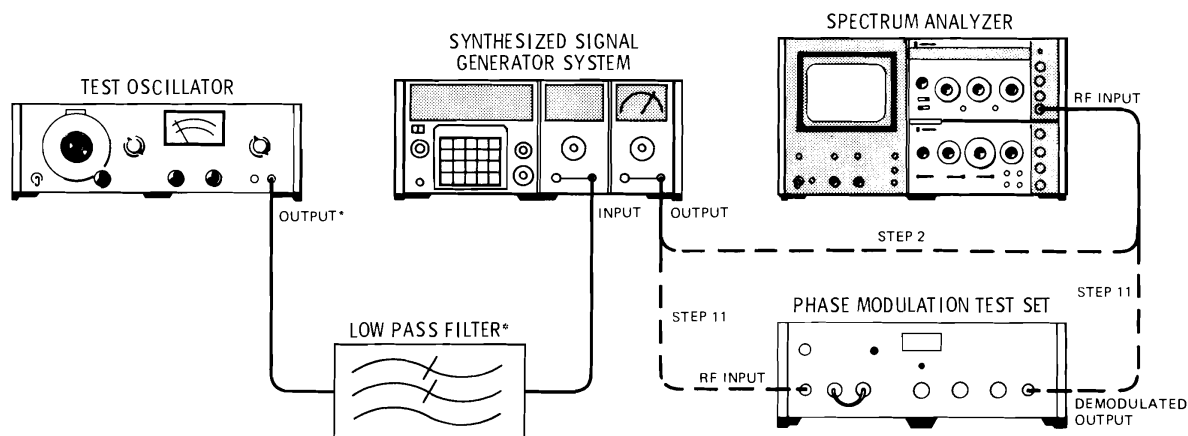

Figure 5-7B. Phase Modulation Level and Distortion Adjustment Test Setup
2. Connect the equipment as shown in Figure 5-7B. Connect the output of the System Under Test directly to the spectrum analyzer RF input. Be sure to use the correct impedance test oscillator output and the correct low pass filter*.
*In Figure 5-7B the test oscillator output and low pass filter impedances are 50 ohms when the modulation section being used is a Model 86634A and 600 ohms when used with an 86635A.
11. Connect the phase modulation test set between the signal generator output and the spectrum analyzer input as shown in Figure 5-7B.